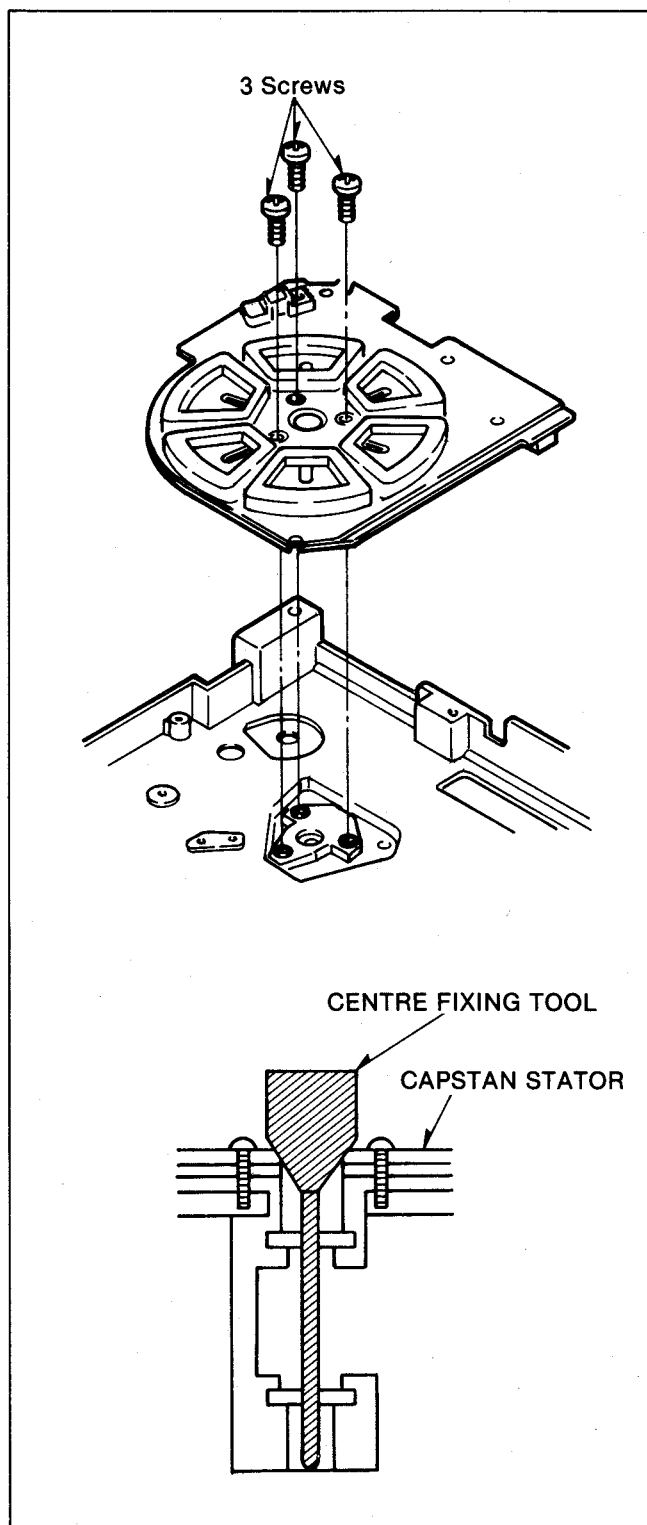

Fig. K4
- 1) Place the STATOR UNIT into position. Loosely reinstall the 3 screws that secure the STATOR and HOUSING UNIT. Next insert the CENTERING PIN then tighten the 3 screws as shown in Fig.K4.